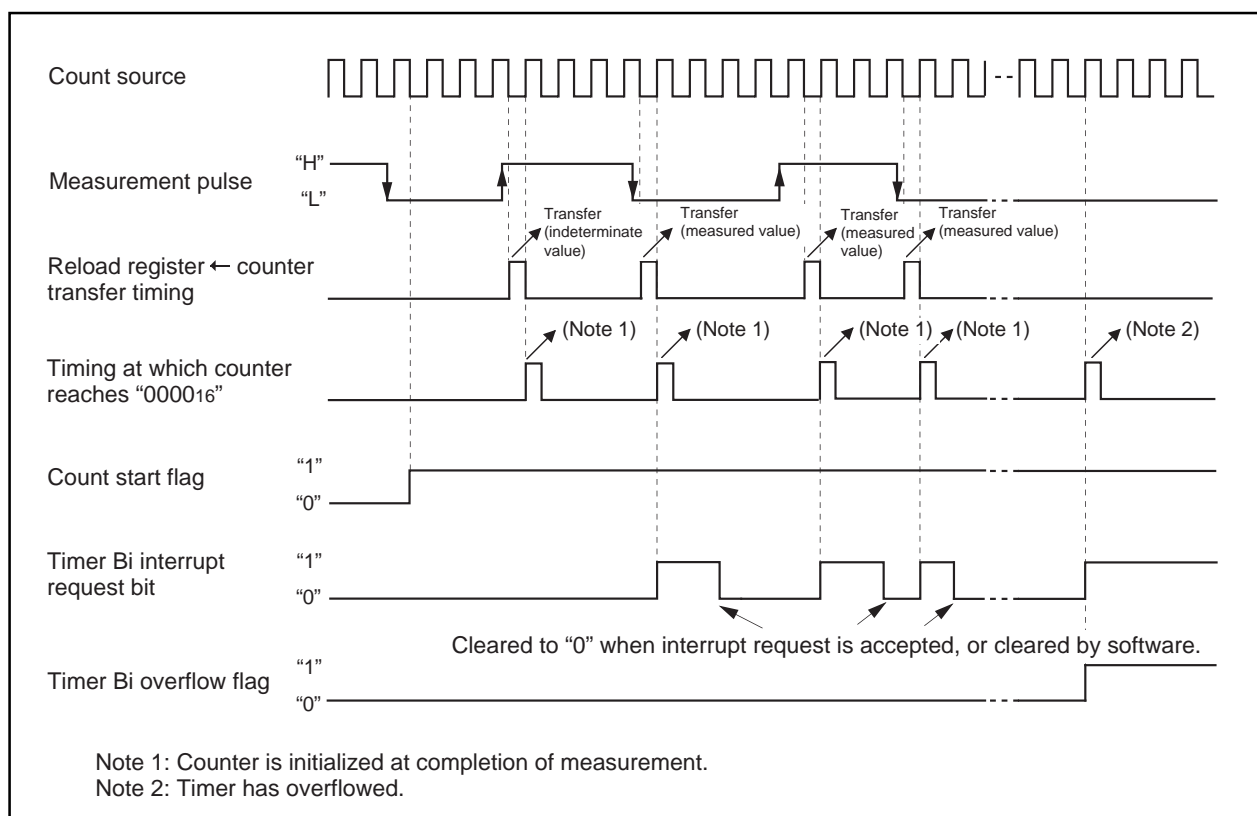

Figure 1.55. Operation timing when measuring a pulse width
1.54 shows the operation timing when measuring a pulse period. Figure 1.55 shows the operation timing